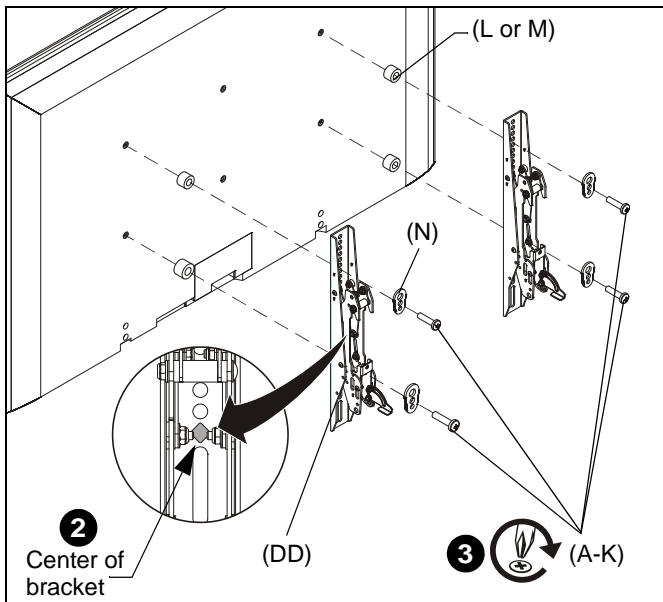

Figure 6
- Align the center of the interface bracket (DD) with center of screen. (See Figure 6)
- Select correct screws, spacers (if necessary) and universal washers from the hardware bag (A-N) and attach brackets (DD) to back of screen. (See Figure 6)